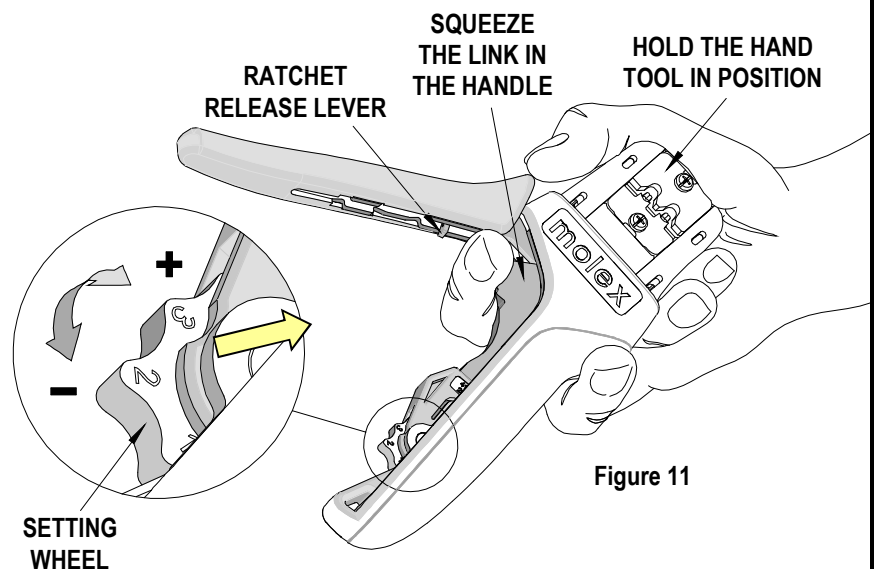

Figure 11
### How to Adjust Tool Preload (See Figure 11)
1. Hold the hand tool in the palm of your hand as shown in Figure 11. Using your index finger, squeeze the link toward the top of the hand tool frame. This will release the preload adjustment wheel.
2. Rotate the setting wheel counterclockwise (CCW) to increase handle force. The numbers will display higher. To decrease handle force, rotate the setting wheel clockwise (CW).